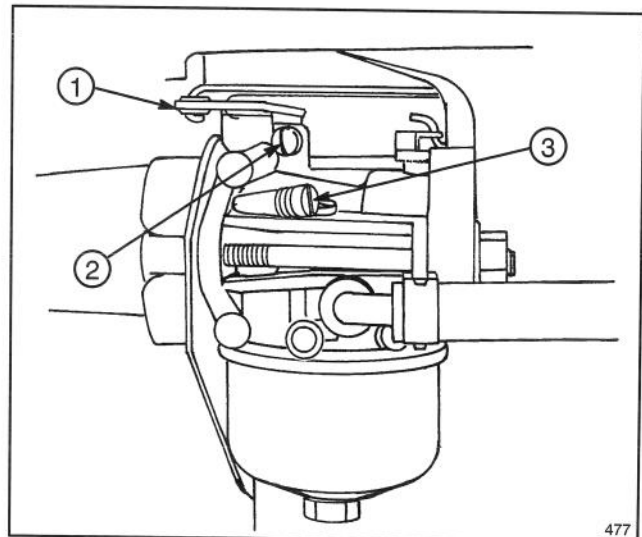

Figure 21
1. Gently turn idle mixture valve clockwise until it **just** closes (Fig. 21). Turning valve in too far may cause damage.
- Rotate throttle (Fig. 21) counterclockwise and hold against idle speed adjusting screw (Fig. 21) while turning idle speed adjusting screw to obtain 1750 RPM.